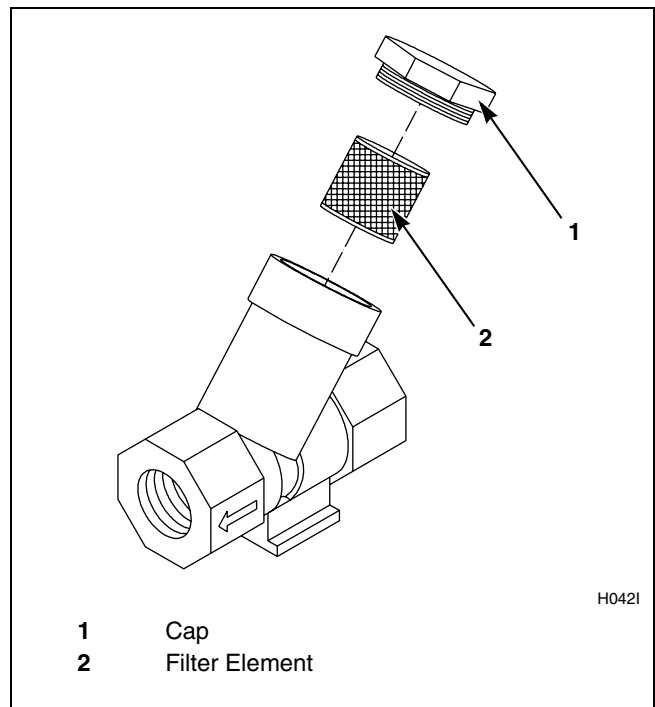

Figure 18
6. Clean customer-supplied steam filter, where applicable. Refer to *Figure 18*.